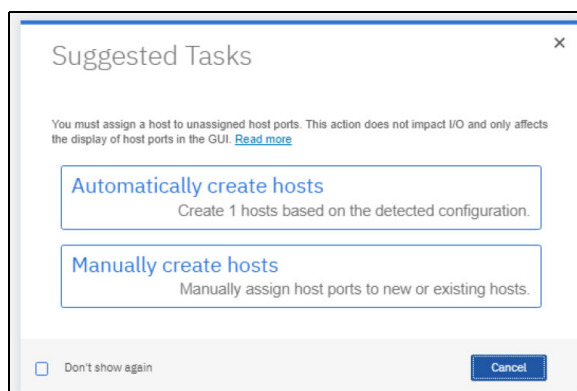

Figure 9-55 Hosts Suggested Tasks
3. If any unassigned host ports are detected by the system, a suggested task window opens with two options, as shown in Figure 9-55.